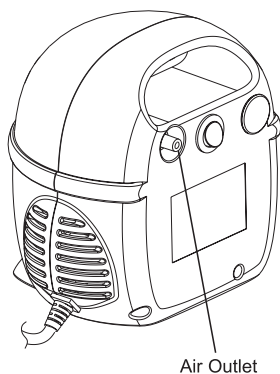

Figure 6-1
9. Press one end of the tubing firmly onto the air outlet on the front of the compressor unit. It is important that the tubing be pushed firmly all the way onto the air outlet of the compressor unit. The tubing is designed to fit tightly (Figure 6-1).